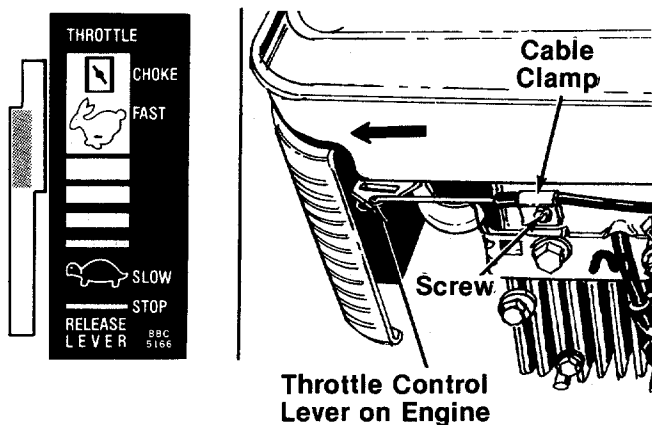

FIGURE 6.
8. Place the throttle control lever on the handle forward until it stops in "Fast" position. (**Do not** push all the way forward to "Choke" position.) See figure 6.
9. The throttle control cable is attached to the upper handle. Hook the "Z" end of the throttle control cable into the hole in the control lever on the engine. See figure 6.
10. Loosen the screw on the cable clamp shown in figure 6. Slip the control casing under the clamp.
11. Slide the throttle control lever on the engine as far toward the outside of the engine as it will go **easily** as shown in figure 6. (**Do not** force it into the extreme outside position, which is the "Choke" position.) Then tighten the screw to secure the throttle control cable. Be certain the clamp is positioned so it holds the cable in a straight line, parallel to the engine shroud.